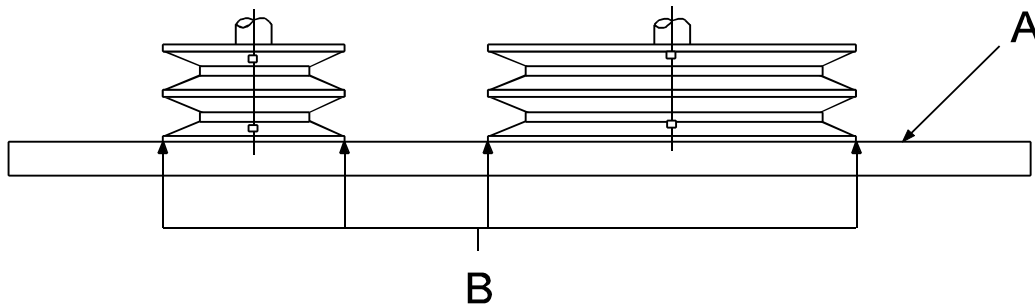

Figure 12: Sheave Alignment
- Slip the loosely assembled unit on the shaft, bushing flange first, and align both sheaves to their desired position on the shaft. V-belts can tolerate misalignment up to 1/32 inch per foot (3 mm/meter) of center distance. Use a straight edge across four points on both sheaves to help obtain proper alignment, *Figure 12, page 20*.
- Line up the clearance holes (A) in the bushing flange with the threaded holes (B) in the sheave hub, *Figure 12, page 20*. Insert the capscrews with lockwashers through the flange of the bushing and engage the threaded holes in the sheave hub.
- Slip the loosely assembled unit on the shaft, sheave hub first, and align both sheaves to their desired position on the shaft. V-belts can tolerate misalignment up to 1/32 inch per foot (3 mm/meter) of center distance. Use a straight edge across four points on both sheaves to help obtain proper alignment, *Figure 12, page 20*.